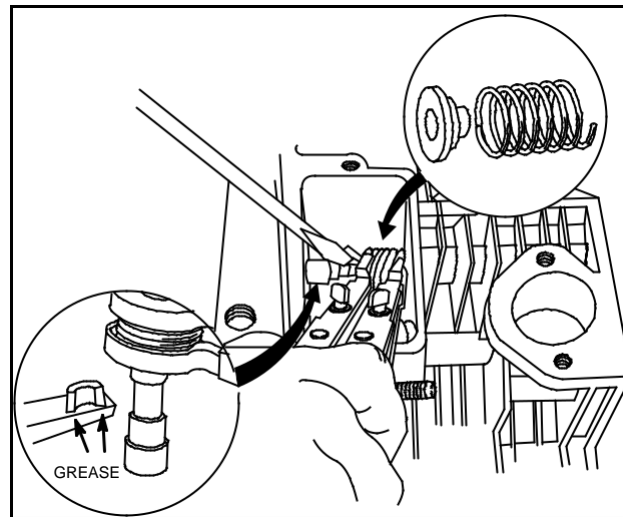

Fig. 33 – Installing Exhaust Valve
3. Hold spring against cylinder head side of valve tappet chamber and insert split valve keepers in valve stem retainer grooves, Fig. 33.